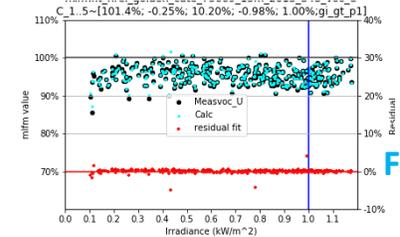

Fig 4
12. Plot MLFM measured, fitted vs. irradiance (Fig 4)